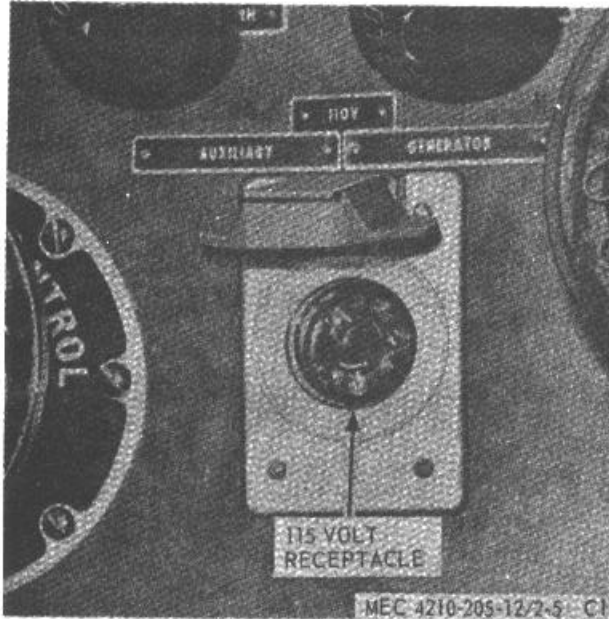

Figure 71.18. 110 VAC receptacle.
- a. *Starting.* Connect the 50-foot cable supplied with the winterization kit or equivalent to the motor-generator set receptacle (fig. 71.18) and 115 volt ac electrical source.